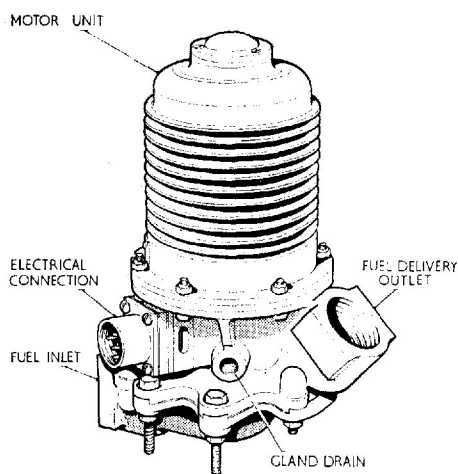

Fig. 1. General view of Type SPE 330WG Water-Glycol pump
2. A general and sectional view of a typical pump are illustrated in fig. 1 and 2. The unit comprises a totally enclosed a.c. motor unit with an extended rotor shaft driving a centrifugal impeller. The rotor is supported at each end by ball bearings. These bearings are of the enclosed type, and are pre-packed with high melting/low freezing point grease.